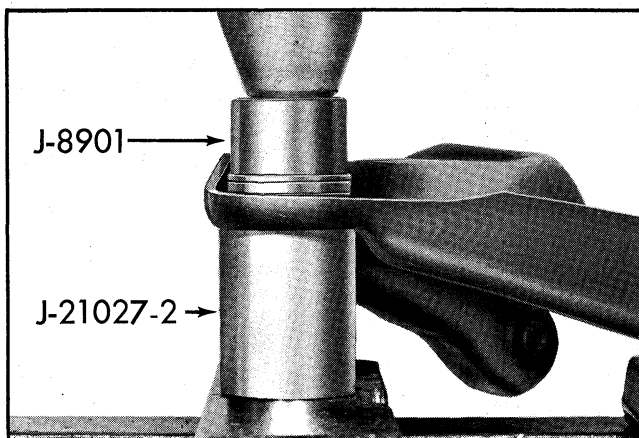

Fig. 3-23 Installing New Ball Joint in Lower Control Arm
2. Install new ball joint by pressing into place using tool J-21027-2 support and installer J-8901 (Fig. 3-23).